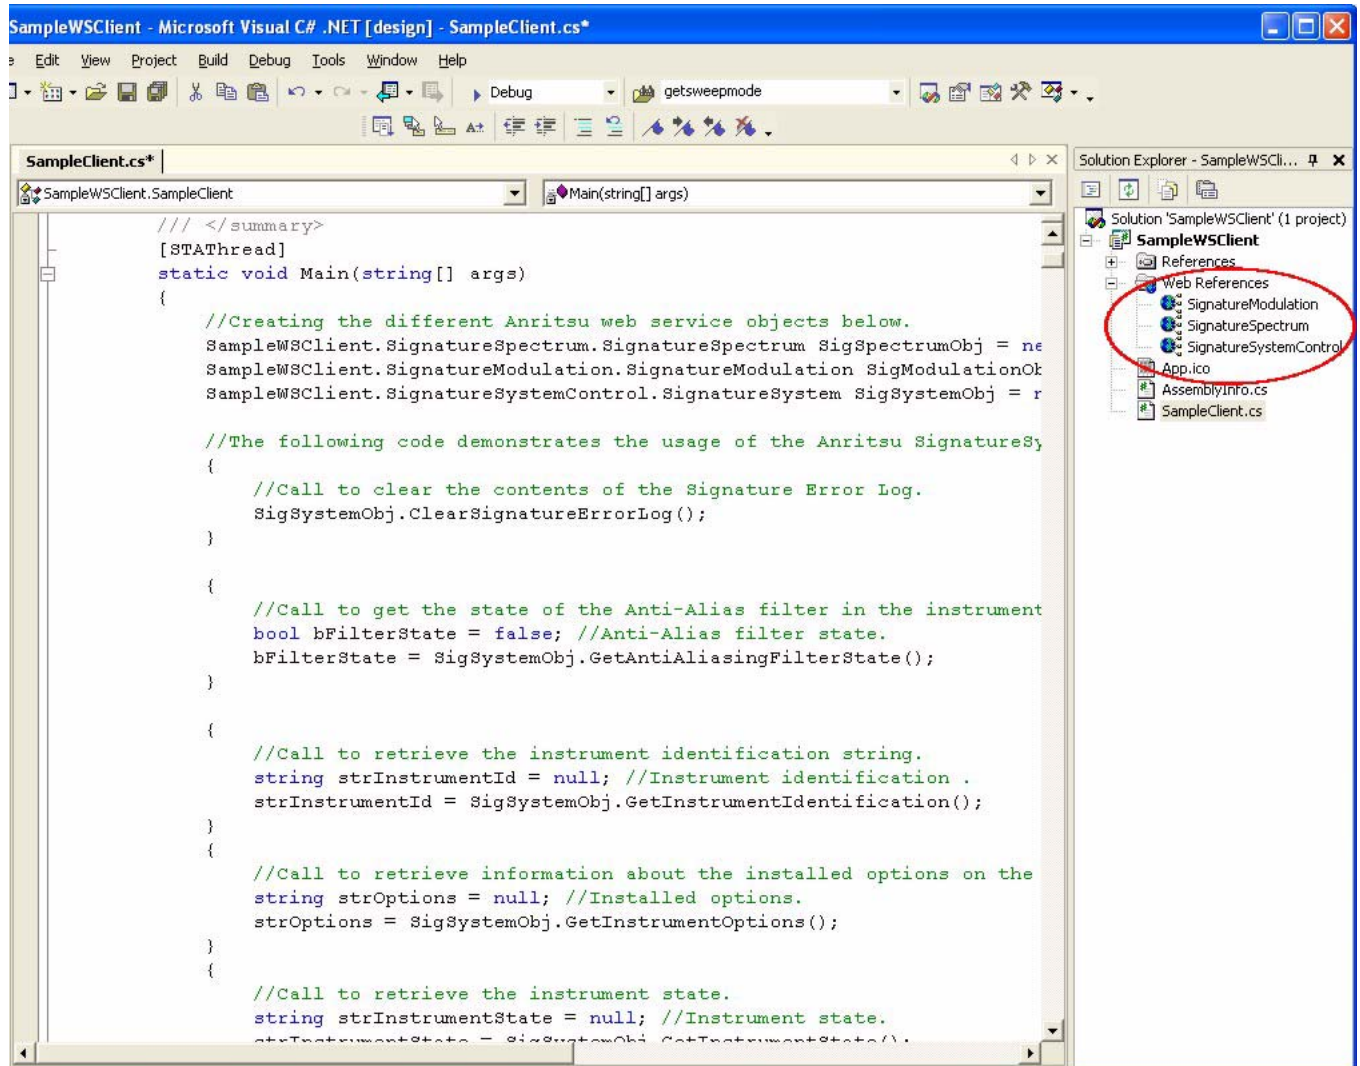

Figure 1-20. Visual Studio.NET SampleWSClient
- Step 1.** In the Solution Explorer pane on Visual Studio .NET 2003, right click on *Web References* under the project listing. Refer to SampleWSClient in Figure 1-20 below: